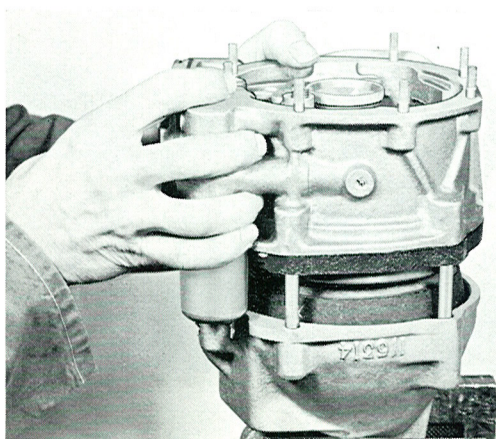

Fig. 4-58. Dismantling the overdrive
3. Unscrew the nuts holding the brake ring, front and rear casing. Loosen the nuts gradually all round in order to avoid any distortion from the springs. Lift off the front casing and brake ring, see Fig. 4-58.